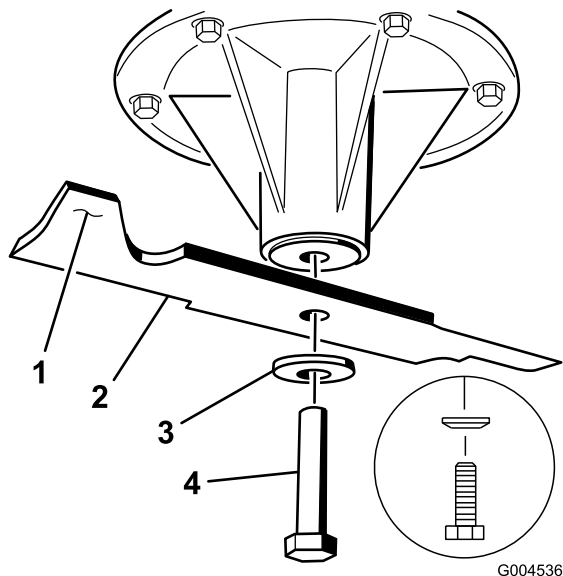

Figure 99
1. Install the blade onto the spindle shaft (Figure 99).
2. Install the spring disk and blade bolt. The spring disk cone must be installed toward the bolt head (Figure 99). Torque the blade bolt to 115-150 N-m (85-110 ft-lb).